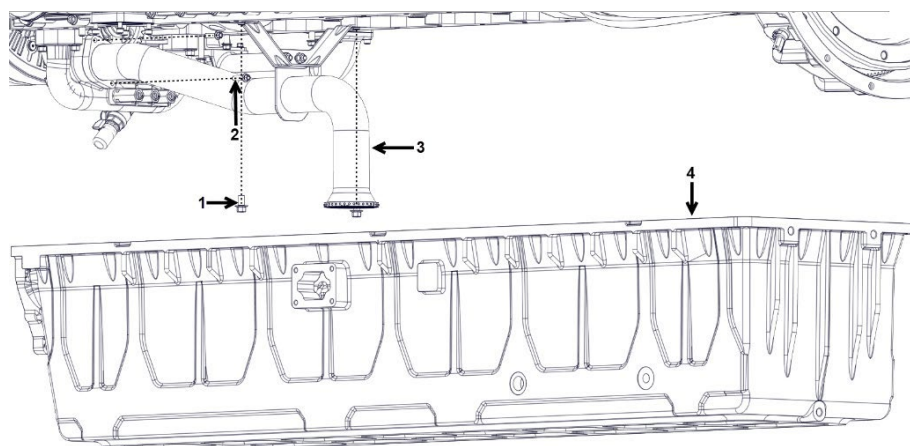

Figure 140.
1. Install the oil strainer by tightening both bolts (Figure 140, Items 1 & 2).